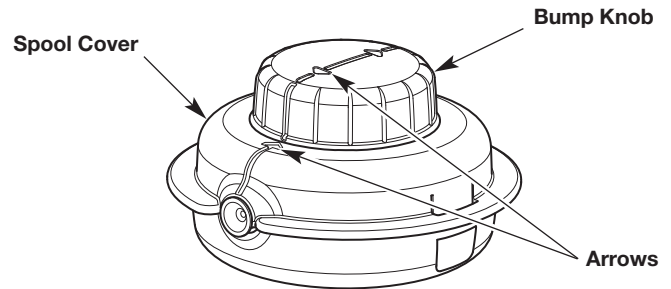

Fig. 19
- Turn the bump knob to align the arrows on the bump knob with the arrows on the spool cover (Fig. 19).